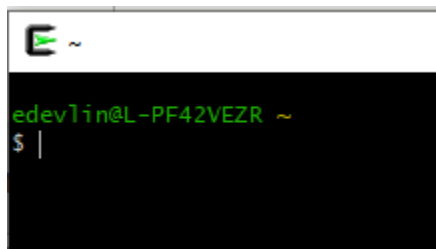

Figure 4.1. Cygwin64 Terminal
1. You can generate a fresh pair of public and private keys using the Cygwin64 Terminal, shown in Figure 4.1, or your preferred shell environment.